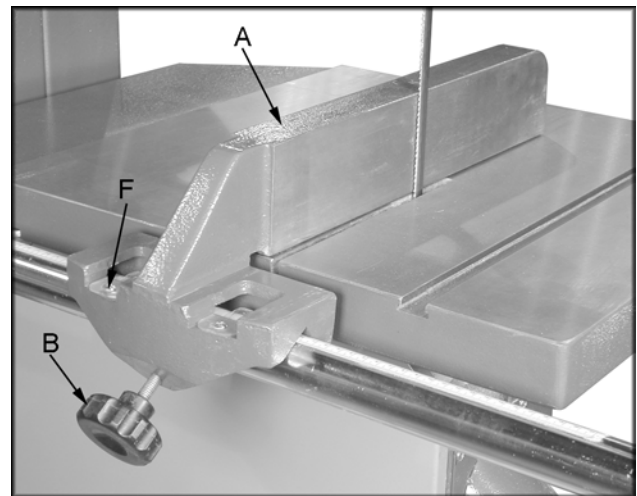

Figure 10
1. Place the fence (A, Figure 10) on the table and guide tube. Use the knob (B, Figure 10) to secure the fence in place, or loosen to reposition fence.
2. Move the fence so that the blade's teeth just touch the fence, see Figure 10. Lock the fence in place using the knob.
5. Check to see that the pointer (F, Figure 10) is aligned with the zero marking on the guide tube. If adjustment is necessary loosen the screw that holds the cursor in place and line up to the zero mark. Tighten the screw.